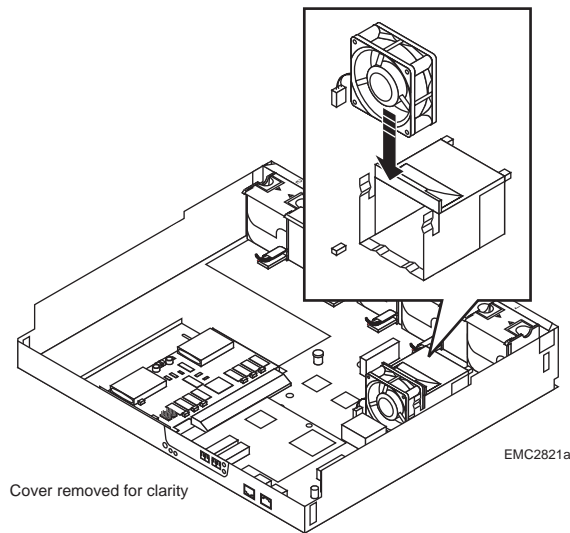

FIGURE 24. Connecting the CPU Fan to the Motherboard
- c. Carefully push the replacement fan straight down and into its connector; then connect the power cord. The connector is keyed to ensure the correct orientation (Figure 24).